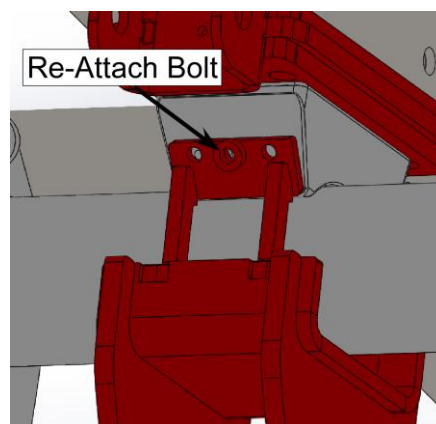

Figure 16. Re-attach Bolt
4. Place the Lower Axle Clamp under the axle. Using the M8 bolt that was provided with the kit, attach it through the Lower Axle Seat location plate as shown in Figure 16.